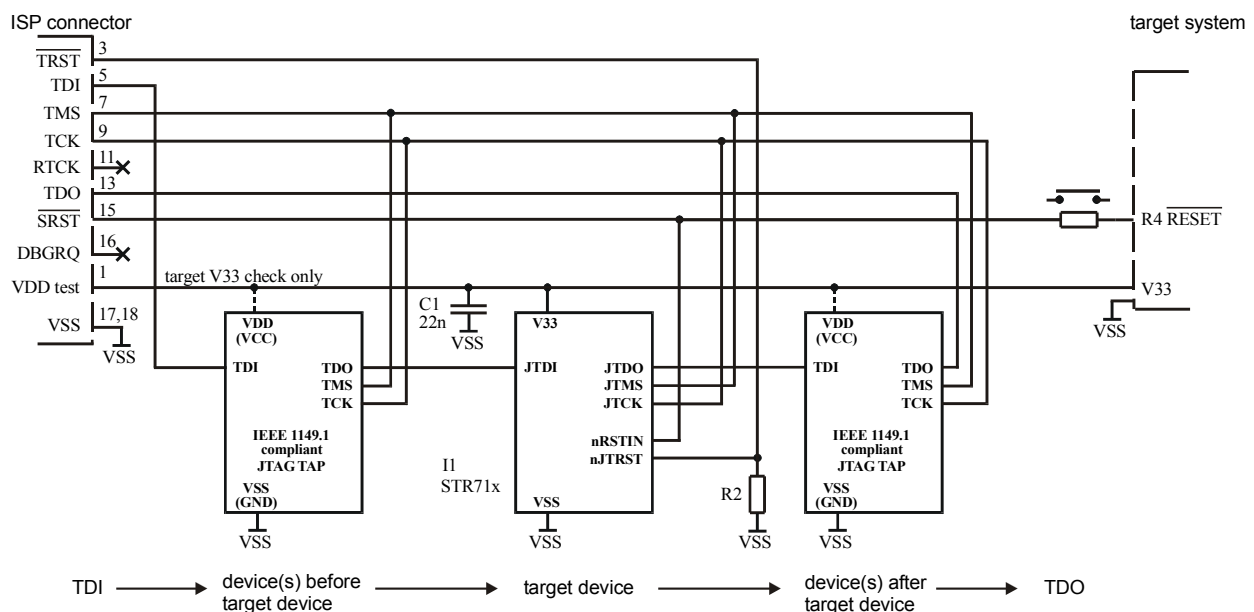

Figure 23: Example of JTAG chain connection
**Number of devices before target** – see Figure 23 for definition of the target device (STR712FR0 in this example) and devices before the target device (devices between the programmer and the target device TDI pin) and after the target device (devices between the target device TDO pin and the programmer). Specify the number of devices before the target device in this field.
**Sum of IR registers lengths of the devices before target** – each JTAG device has at least three registers – instruction register (IR), data register (DR) and bypass register (BYPASS). Typically, if device is not the target one, bypass instruction is written into IR. In consequence, the bypass register is